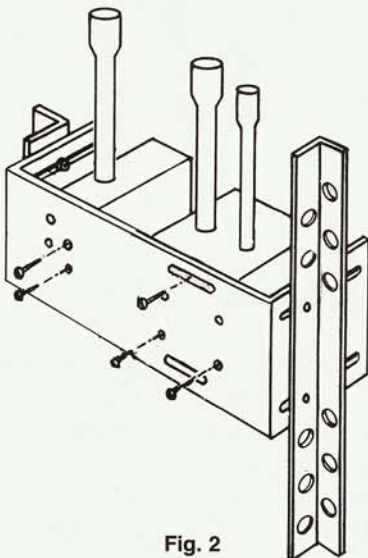
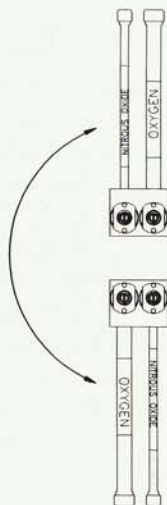
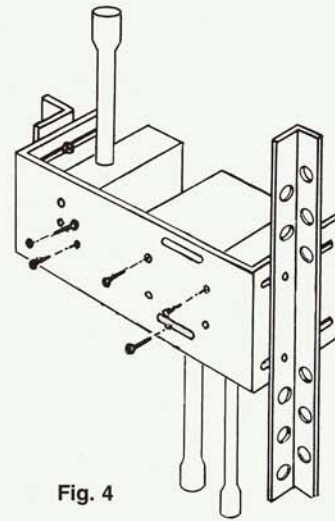

Fig. 2
Fig. 3
Fig. 4
This portion of the 6256-3 outlet station has the option of unscrewing the gas block, (N₂O/O₂) (Fig. 2) from the support plate (three screws), inverting the block (Fig. 3) so the pipes may extend downward (Fig. 4).
2.2. **IMPORTANT:** When remounting the blocks to the support plate use the *lower* set of holes on the plate (Fig. 4) to insure the faceplate will line up. (Note: This is only when pipes are pointing down.)